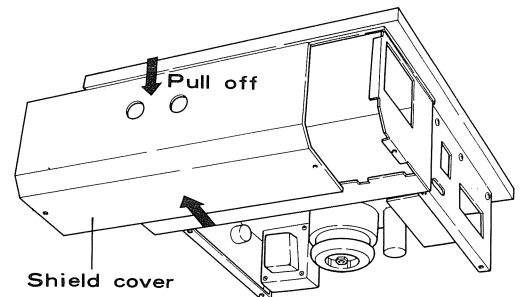

Fig. 8
2. Pull off the metal shield cover as shown in Fig. 8.